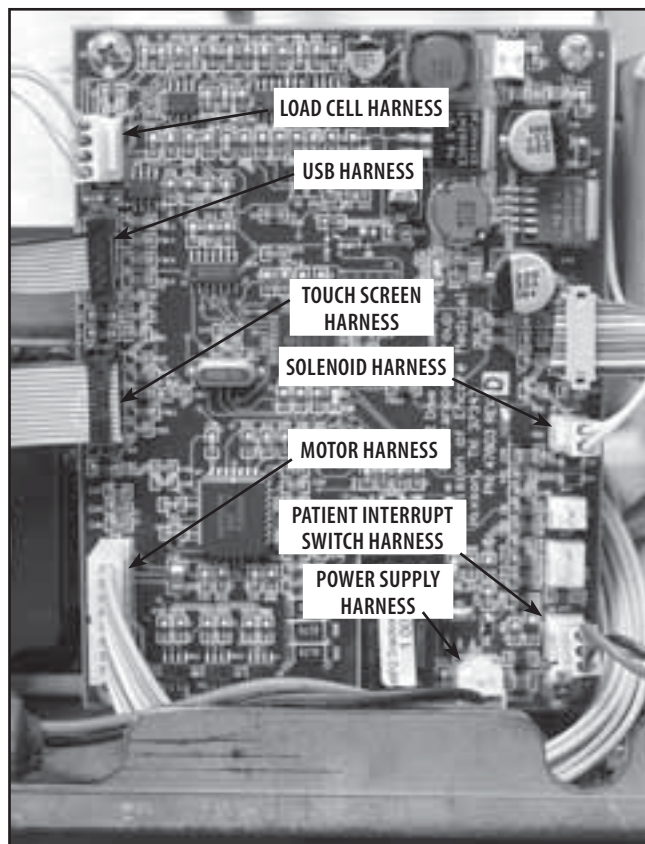

FIGURE 6.13
2. Disconnect all seven harnesses from the Motor Control Board. See Figure 6.13.
2. Install Harnesses to the Motor Control Board. See Figure 6.13.